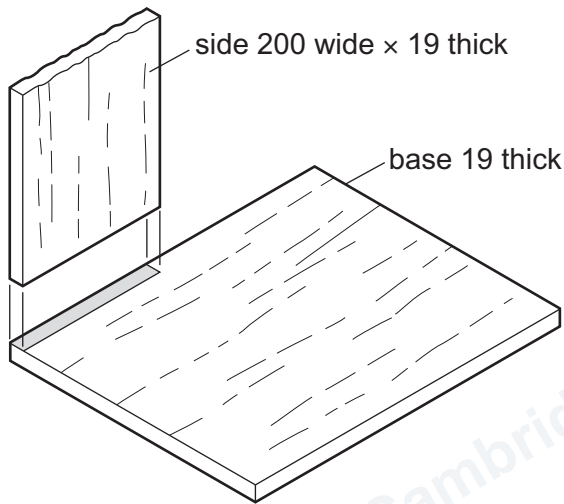

Figure 11.2
- (b) The sides of the table could be joined to the table top and base by means of knock-down (KD) fittings or dowel joints. Figure 11.2 shows part of one side and the base.